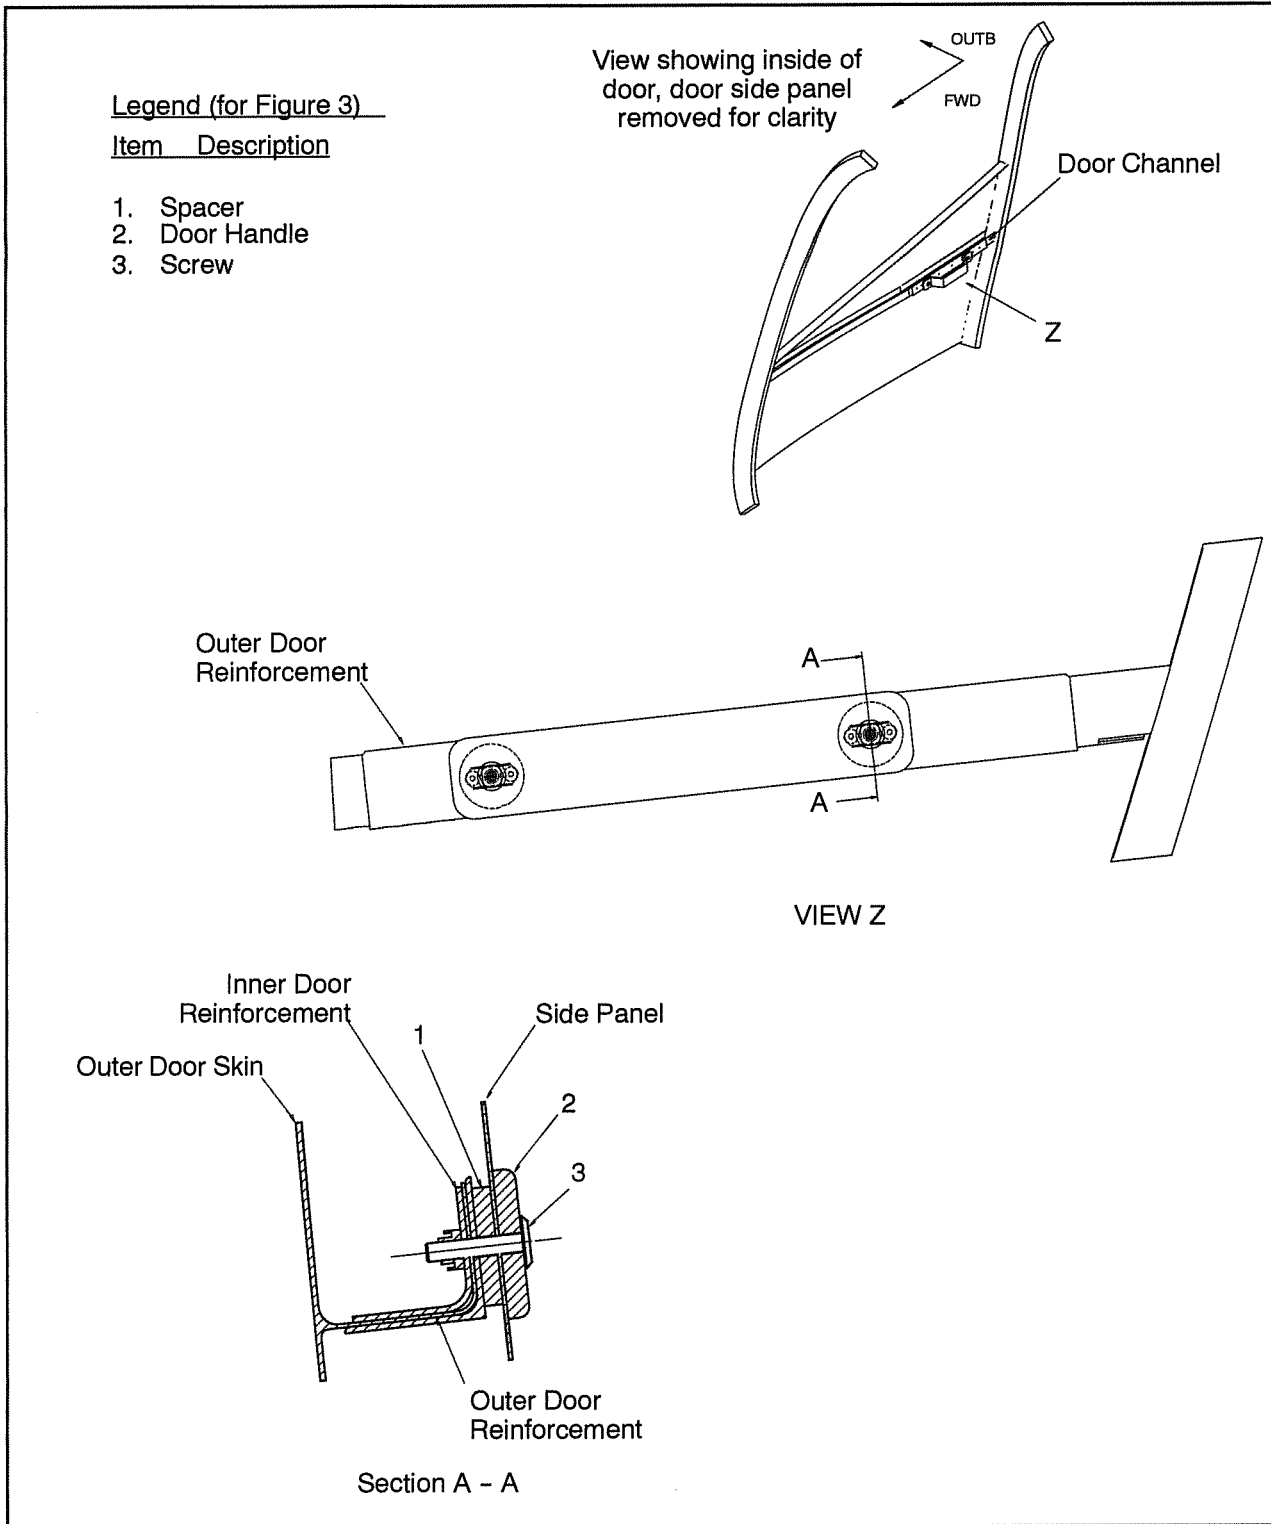

Figure 3 Door Handle Details (continued)
- 1) DOOR HANDLE (Refer to Figure 3)
- a) Remove screws (3) (2 places) that secure the door handle to the inside of the RH Door.
- 1) DOOR HANDLE(Refer to Figure 3)
- b) Secure door handle using screws (3) (2 places).